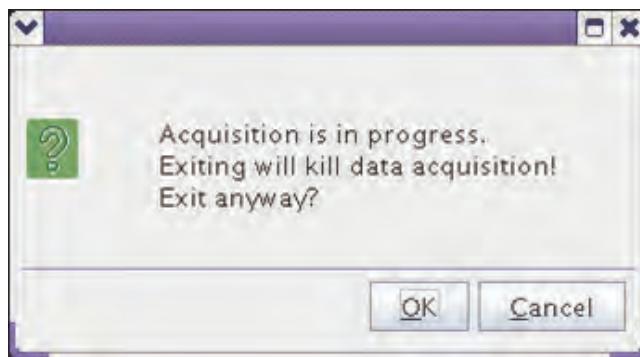

Figure 13.7
- 1.) If Acquisition is running (see Figure 13.7)..